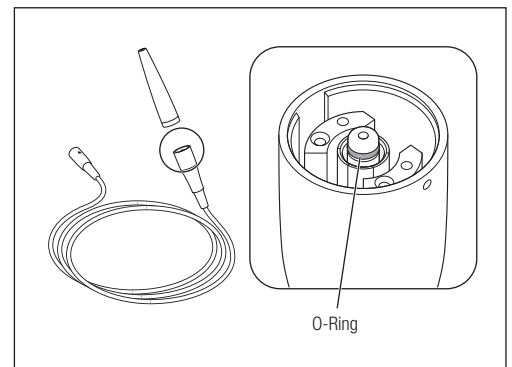

Fig. 43
- 2) Remove the O-ring to be replaced using a needle, etc (Fig. 43).